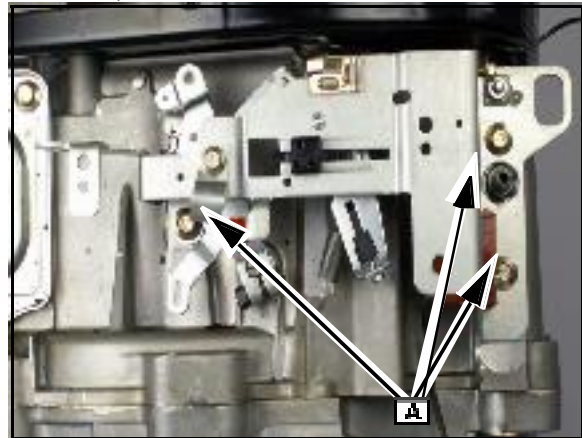

Fig. 14
- Remove control bracket screws ([A] Fig. 14).